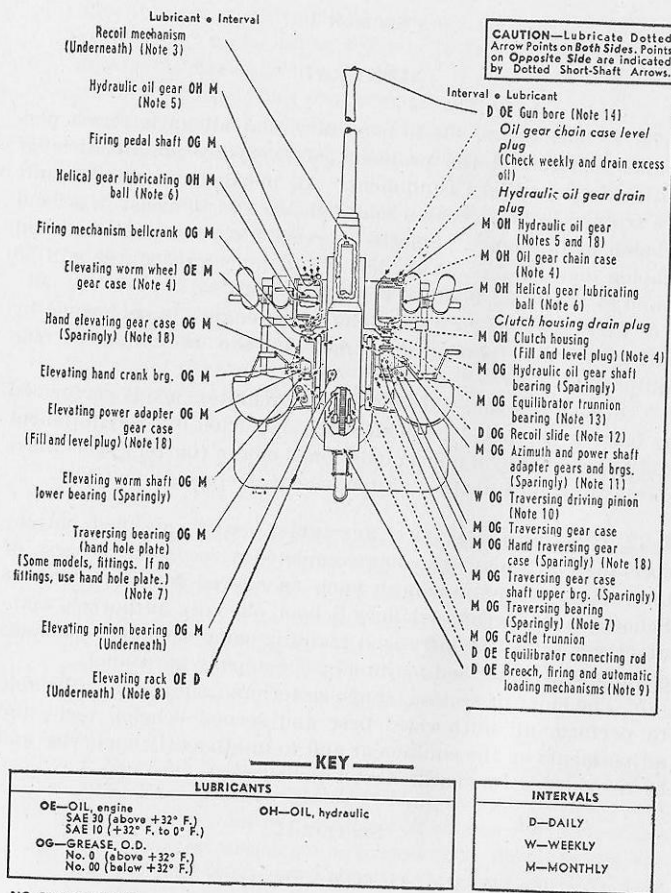

FIGURE 28.—Lubrication chart, 40-mm gun M1.
■ 73. LUBRICATION.—The following instructions supplement the lubrication chart figure 28.